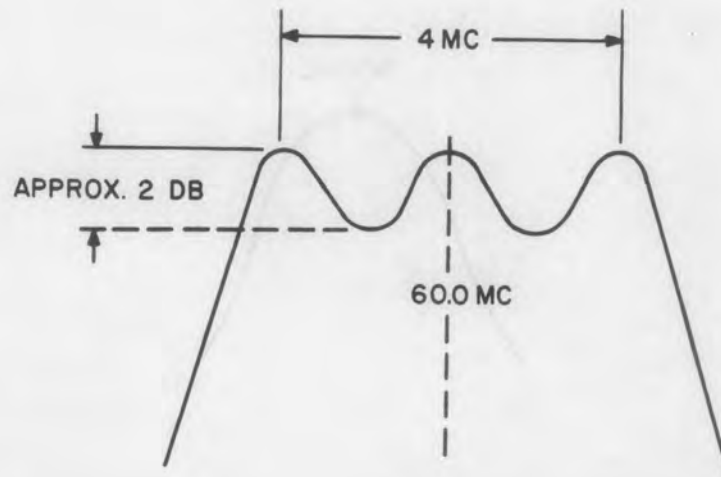

Figure 4-8. Typical Response Curve, 3-mc Bandwidth Alignment
- (2) Connect the VTVM to the AGC line at A3C43 and adjust the RF GAIN control for an indication of -6.0 volts on the VTVM.
- (3) Set the bandswitch in the 490-1000 MC position.
- (4) Adjust the sweep generator until a response curve is displayed on the oscilloscope screen.
- (5) Adjust A3L6 so that the middle peak of a three peaked response is centered at 60.0 mc. A typical response is shown in Figure 4-8.